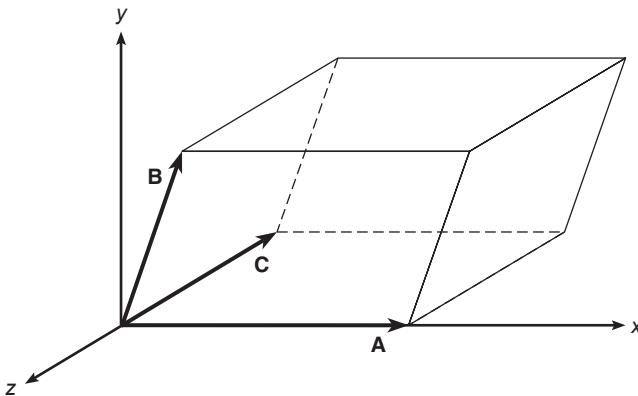

Figure P34
34. The volume of a parallelepiped can be computed from $|A \cdot (B \times C)|$, where A , B , and C define three sides of the parallelepiped (see Figure P34). Compute the volume of a parallelepiped defined by $A = 5\mathbf{i}$, $B = 2\mathbf{i} + 4\mathbf{j}$, and $C = 3\mathbf{i} - 2\mathbf{k}$.